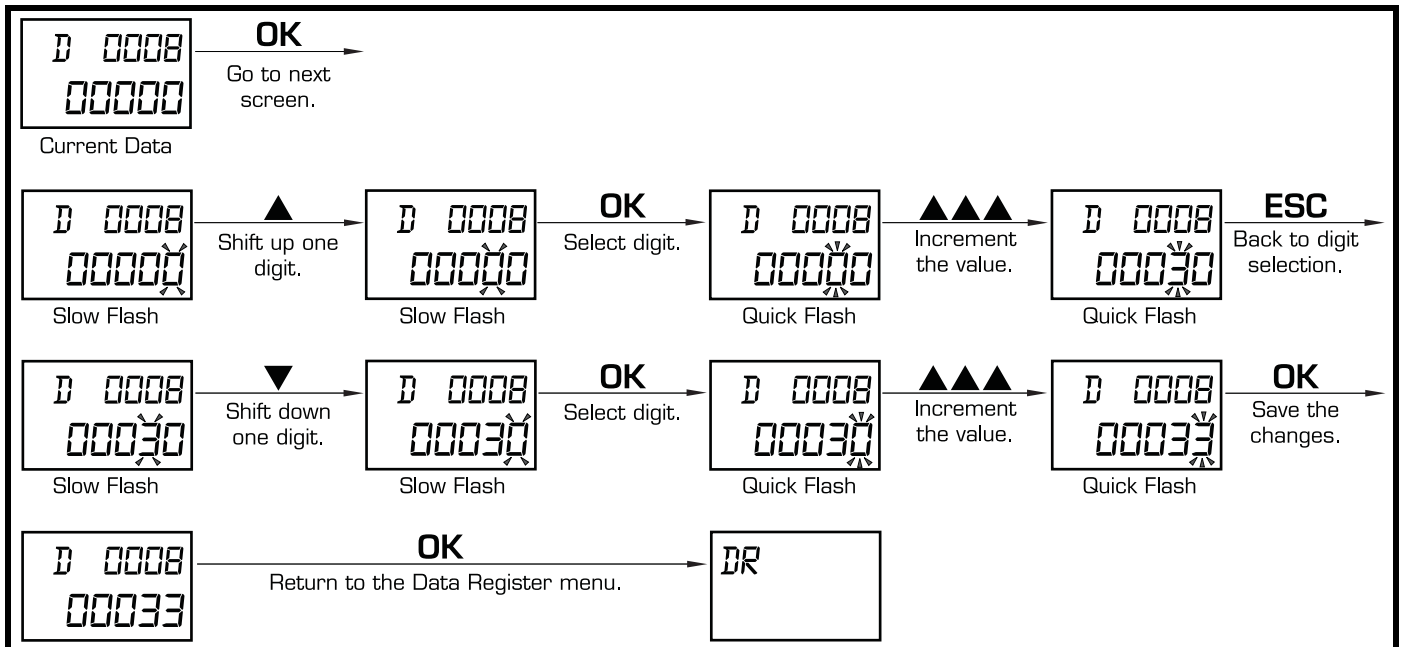

Figure 9. Setting Off Time
3. Follow the steps in Figure 9 to input the number of seconds between sonic horn cycles for the selected off time interval.